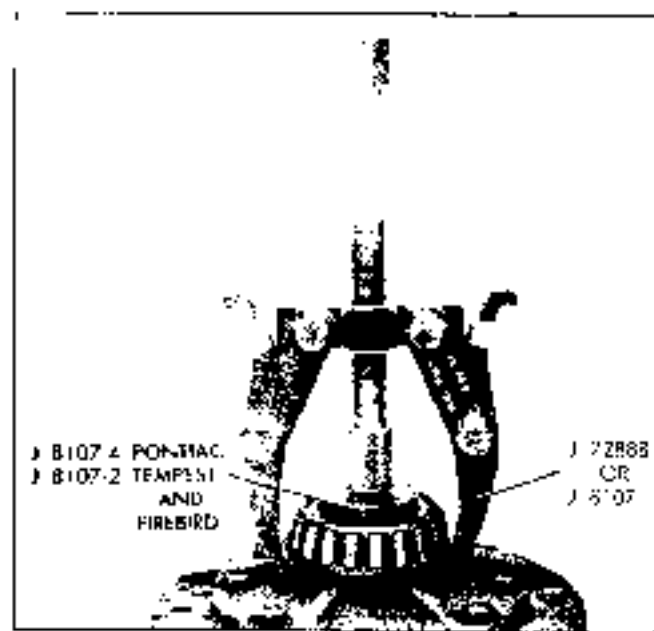

Fig. 4A-24 Removing Differential Side Bearing
9. Drive pinion shaft out of case, using brass drift (Fig. 4A-25).